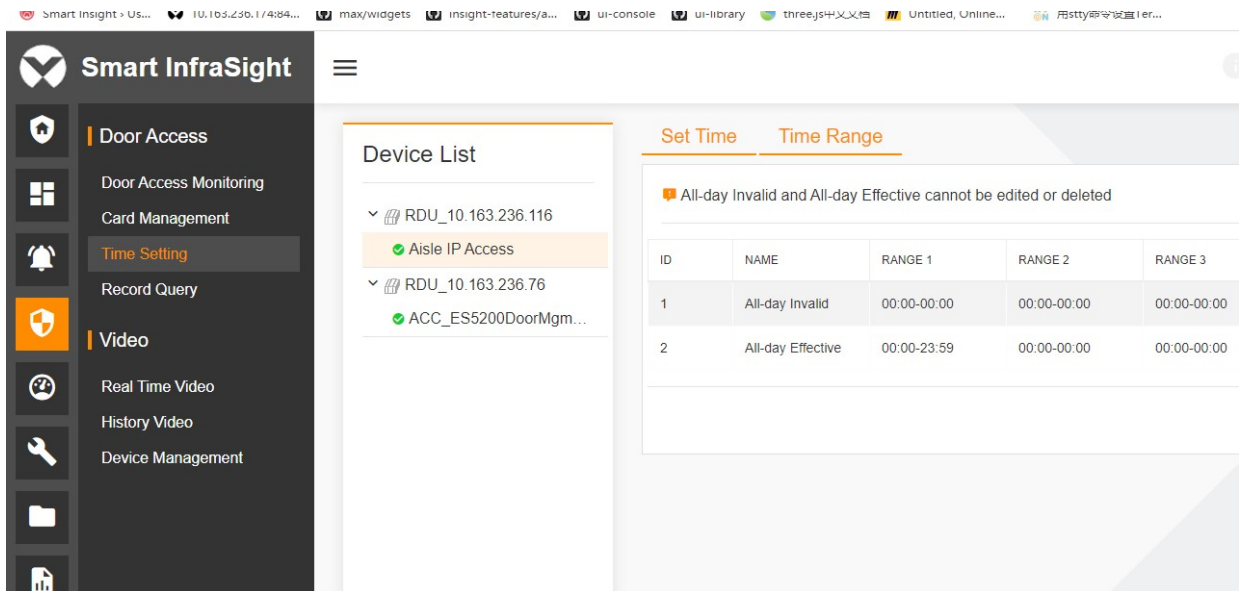

Figure 13-44 Time Range
1. Switch from the **Set Time** tab page to **Time Range** tab page. The system writes two default time ranges for each access controller, including **All-day Effective** and **All-day Invalid**, as shown in Figure 13-44.